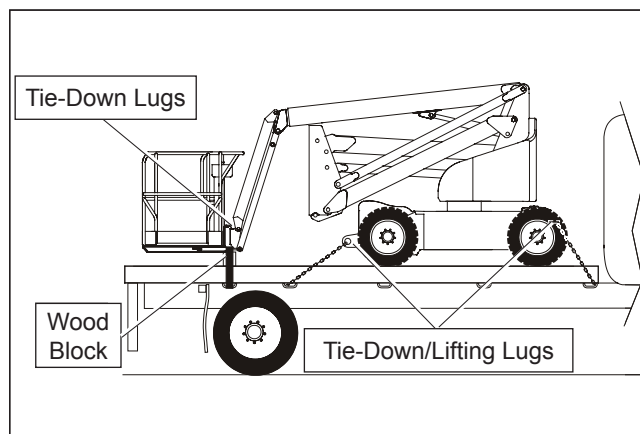

Figure 5 – Platform
4. Place a large wood block under the platform support braces (refer to Figure 5). Lower the platform so it rests on the wood block.